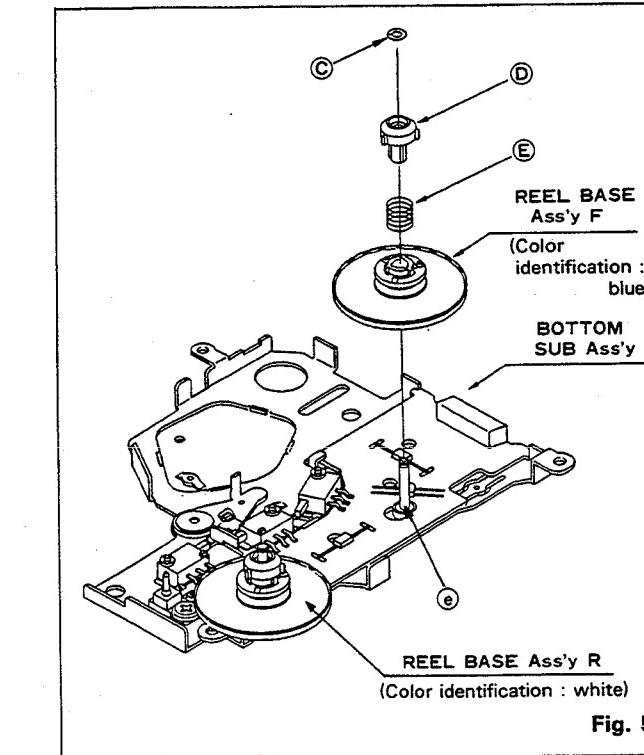

Fig. 5
- (Refer to Fig. 5)
- (a) Remove the special washer ⑤ ($\phi 3.2$ split).
- (b) Remove the slide bushing ⑥ and slide spring ⑦.